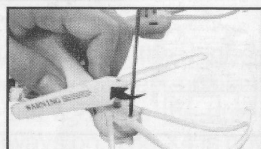

Figure 3
2. Install the blade guards to each corner (figure 2) and tighten screws (figure 3).